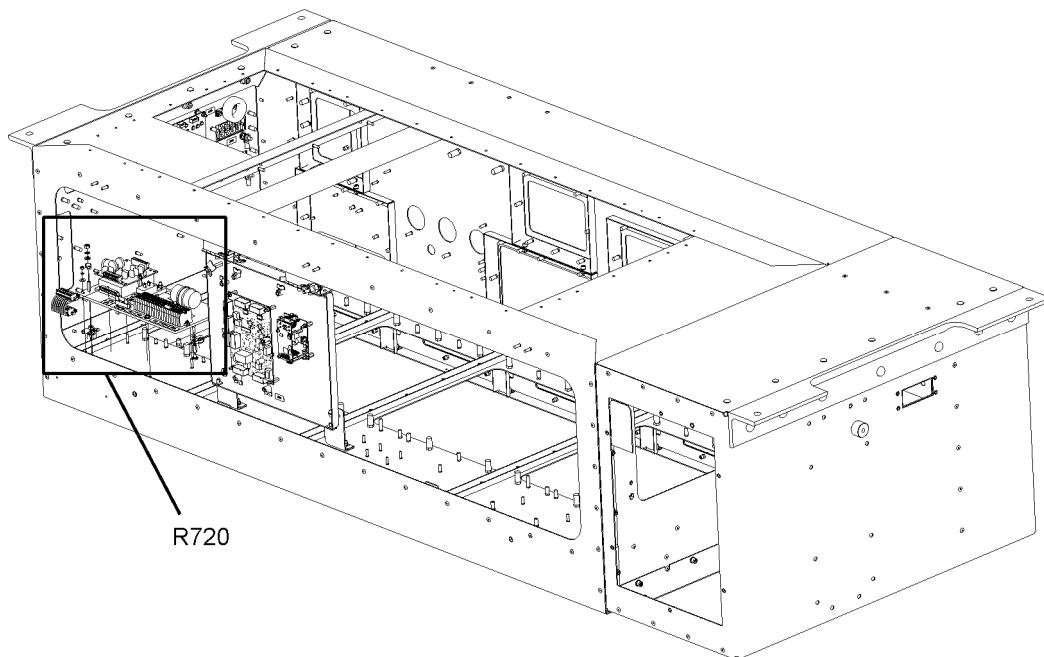

Figure 5-60: Location of R720
3. Locate R720. See Figure 5-60 for the location of the R720.